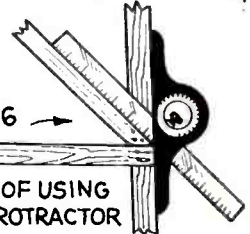

FIG. 6
A very simple way to keep the mast absolutely symmetrical all the way up is to use a bevel protractor. Make the first "criss-cross" brace as nearly square as possible; then set your protractor to this angle, as shown in Fig. 6. By using the protractor for a guide for the "criss-
(22) A. F. Gagen, Southold, N. Y., asks:
Q. 1. In the description of Fig. 6 (page 49, June-July issue of SHORT WAVE CRAFT) mention is made of a blocking condenser C9, used to prevent shorting the "A" battery. What is to prevent a short-circuit occurring through the metal shield, "A+," and parts of R1 and R3 back to "A—"?